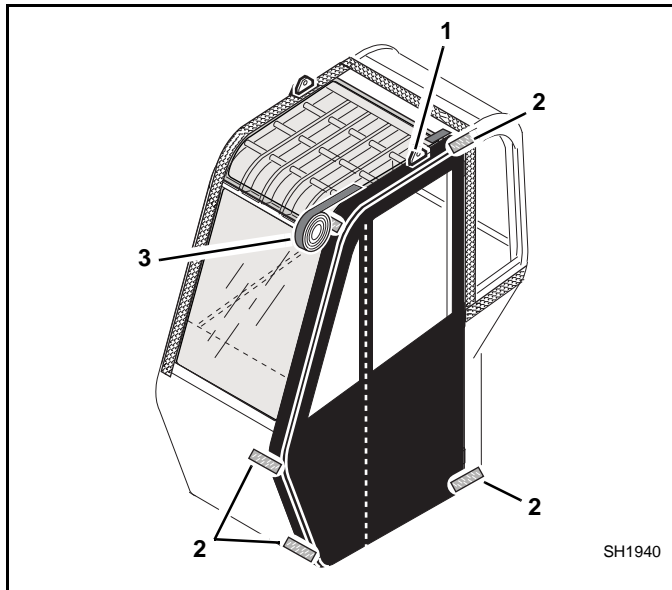

Figure 8
1. Close the zipper on the door section and put door in place on the cab. Be sure the lifting plate (Figure 8, 1) on top of the cab fits through the opening in the top edge of the door section. Adjust and reposition as needed for a even fit.
2. Once the door section is in position, secure corners with masking tape (Figure 8, 2). To insure proper alignment of the hook strip mating surfaces, mark the outside edges with masking tape (3). After marking, remove the door section and store until ready for installation.